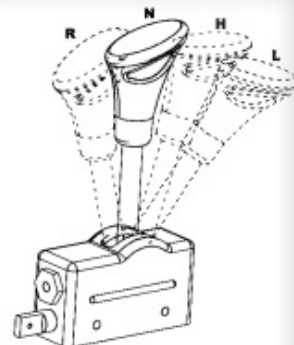

Figure 4
c. Each time you need to apply the brake to change the setting to go backwards apply the brake and move the lever to the "R" for the kart to go backwards note! Your kart is set up with 3 settings (See Fig.4):